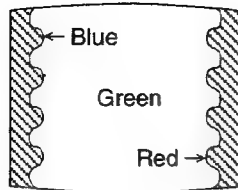

Fig. 3-4
5. Move the deflection yoke backwards and adjust with the purity magnet so that the green is at the center and it aligns symmetrically. (See Fig. 3-4)